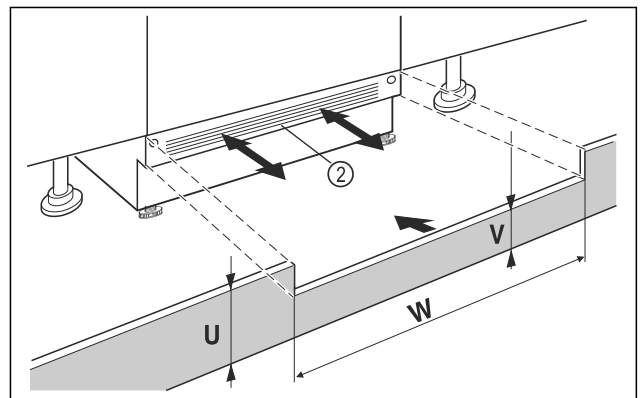

Fig. 13 Example illustration
- ▶ Put on the appliance base cover Fig. 13 (2) but do not fix it yet.
- ▶ If the base cover Fig. 13 (2) is visible, pull it so far forward that the front edge of the ventilation grille and the unit base cover form one level.
- If the base cover is concealed Fig. 13 (2), push it all the way back.
- Ensure that the ventilation slots are completely free: If necessary, cut the height of the unit base cover Fig. 13 (U) to size!
- Adjust the bar height Fig. 13 (V) under the appliance base cover Fig. 13 (2) along the recess width Fig. 13 (W).